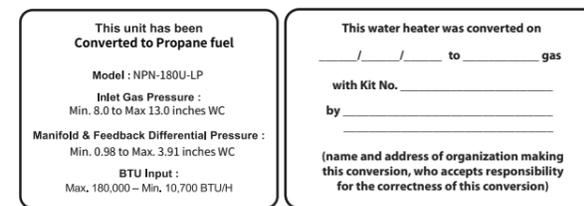

Figure 11. Proper Placement of Gas Conversion Labels
11. Once the manifold pressure values have been confirmed and the gas conversion has been properly completed based on the provided instructions, apply the included conversion stickers to show that the appliance has been converted to natural gas or propane gas. Complete the label and place it adjacent to the rating plate as shown in Figure 11.